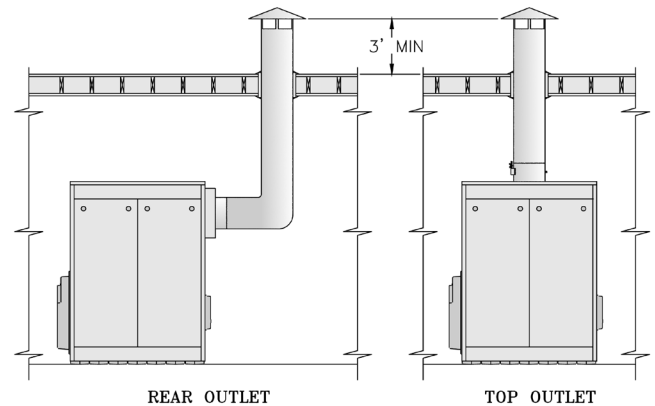

Figure 3a: Typical Arrangement for Stub Vent
The V9A Series boiler is designed for forced draft firing and may be used with a conventional natural draft stack (15' minimum height) or a stub vent, sometimes called a diesel stack (see Figure 3a). See Table I for the proper vent outlet size. For low silhouette vent terminations, see Figure 3b. Draft controls are not normally required, although they may be used on installations where a natural draft stack is used or on multiple boiler installations with a common stack. The boiler is provided with a breeching damper, which should be adjusted to maintain a positive pressure of 0.1" W.C. in the vent connector box during burner high fire operation (see breeching pressure sensing port in Figure 1).
If the venting system is designed for positive or forced draft venting, the boiler, vent connector and stack will operate under positive pressure. Gas tight vent systems designed for pressure systems must be used to prevent flue by-product leakage. The vent height is usually limited to prevent negative draft, typically three (3) feet above the roof line (see Figure 3a). The damper shall be adjusted to maintain a positive pressure of 0.1" W.C. in the vent connector box during burner high fire operation (see breeching pressure sensing port in Figure 1).